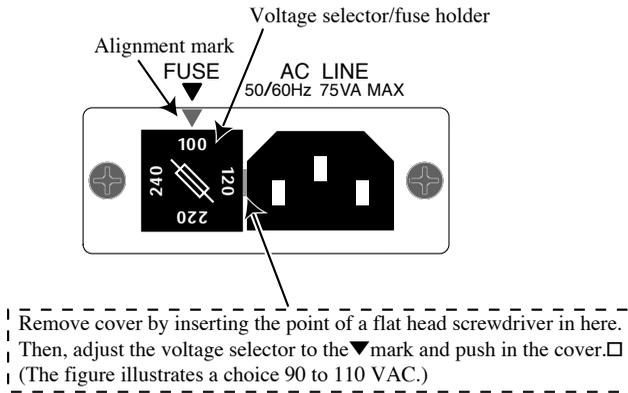

Fig. 1-2 Removing Fuse Holder
2. Remove fuse holder as shown in Fig. 1-2 "Removing Fuse Holder".